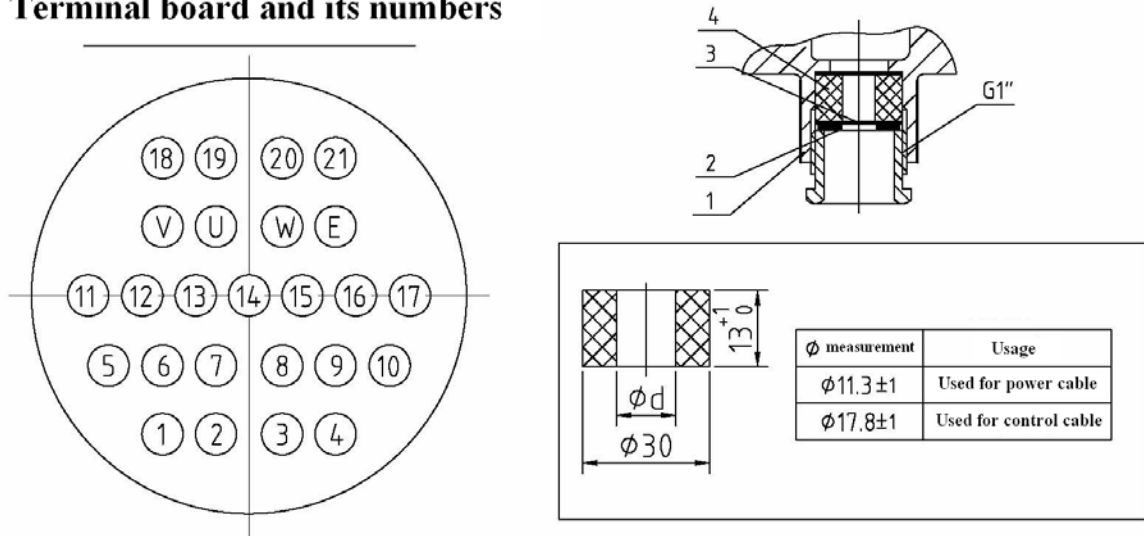

Fig.4
3.2.2 Electric wiring of Integral explosion-proof type(Fig.4) :
3.2.2.3 Put power cable and control cable separately into No.1, No.2 and No.4. (No.2 sealing rubber, see the Fig.4)